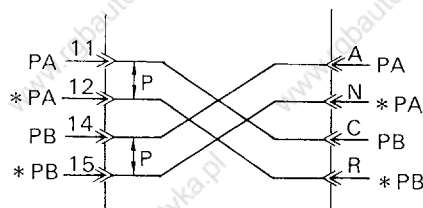

Fig. 38.4 Signal Lead Change
- (1) Limit the length of signal cable between orientation card and encoder to less than 20 meters.
- (2) We have available the signal cable described in the specification shown in Table 38.1 You can purchase this optional item in the standard lengths according to your requirement.
- (3) During installation, keep the power cable and signal cable apart from each other to prevent interference from electrical noise.
- (4) During normal rotation of spindle, if the encoder rotates clockwise as viewed from the spindle, or if the encoder rotates counter clockwise as viewed from the spindle end, interchange A – and B – phases as shown in Fig. 38.4